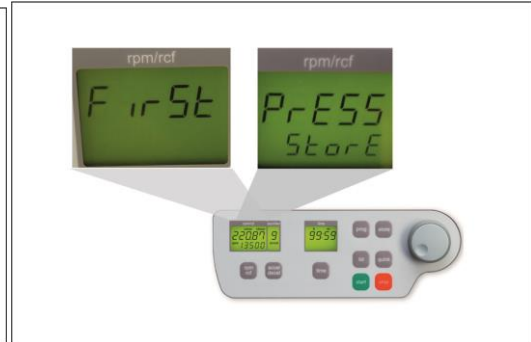
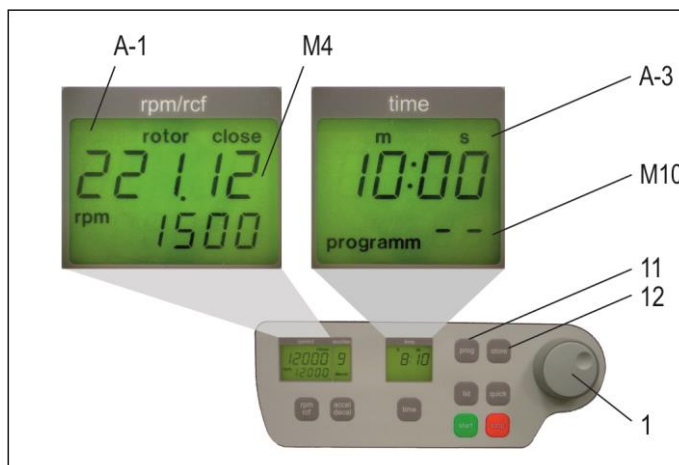

Figure 22
Figure 23
Put the desired rotor into the centrifuge. By pressing the key, "prog" (11), in the display "time" (A-3) appears the word "program", (see Figure 22). With the adjustable knob (1), choose the desired program number.
Close the lid of the centrifuge, now proceed as described above, to set all important run parameters. If the lid isn't closed, when storing the program in the display "rpm/rcf" (A-1), flashes alternately the word "FirSt" and "CLOSE Lid" (see Figure 23). When starting the run without storing the program, in the display "rpm/rcf" (A-1), flashes alternately the word "First" and "PrESS StoreE", (see Figure 22).
For all number marked text, please refer to Figure 23